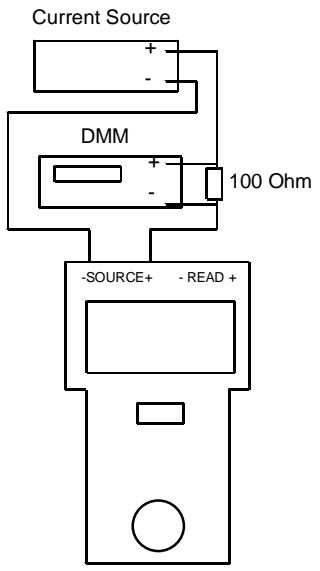

FIGURE 3
- 1) Connect the source leads in series with the current source and the 100 Ohm resistor. Connect the DVM parallel with the 100 Ohm resistor (See Figure 3).